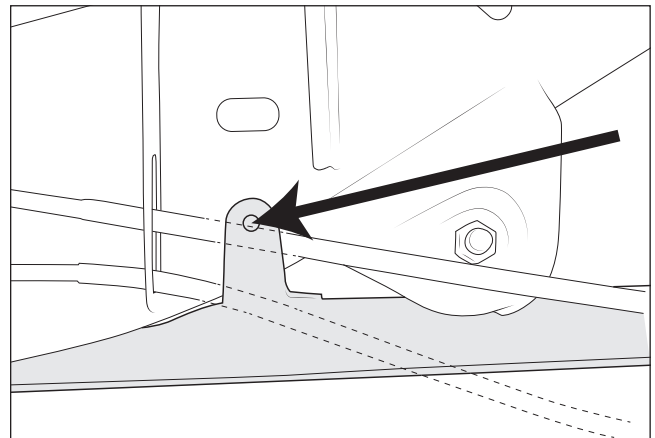

Figure 2
- B. Mark hole location on outer frame rail, remove the skid, and drill marked hole to 27/64" (fig. 2).